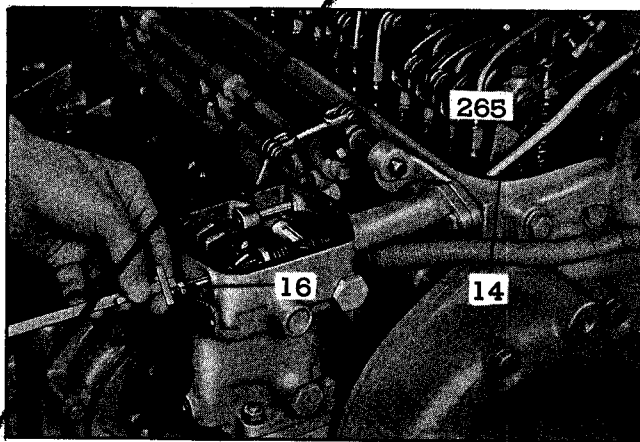

Fig. 13—Adjusting Fuel Rod.
2. Loosen fuel rod lock nut (16), Fig. 13, and remove fuel rod knob.